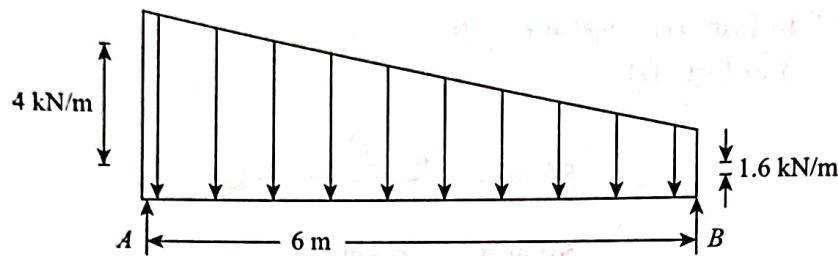

Figure 6.14
**EXAMPLE 6.7:** In a gradually varying loaded beam as shown in Fig. 6.14, the span of simply supported beam is 6 m. Load at  $B$  is 1.6 kN/m run and gradually increases to 4 kN/m run at the other end.